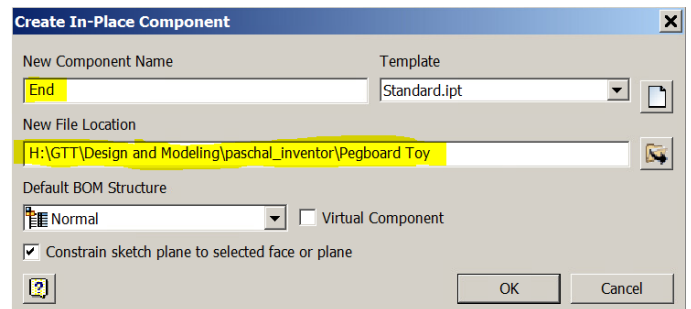

Figure 8 – New End part saved in the Pegboard Toy folder
- From the Assemble menu, select Create. See Figure 8